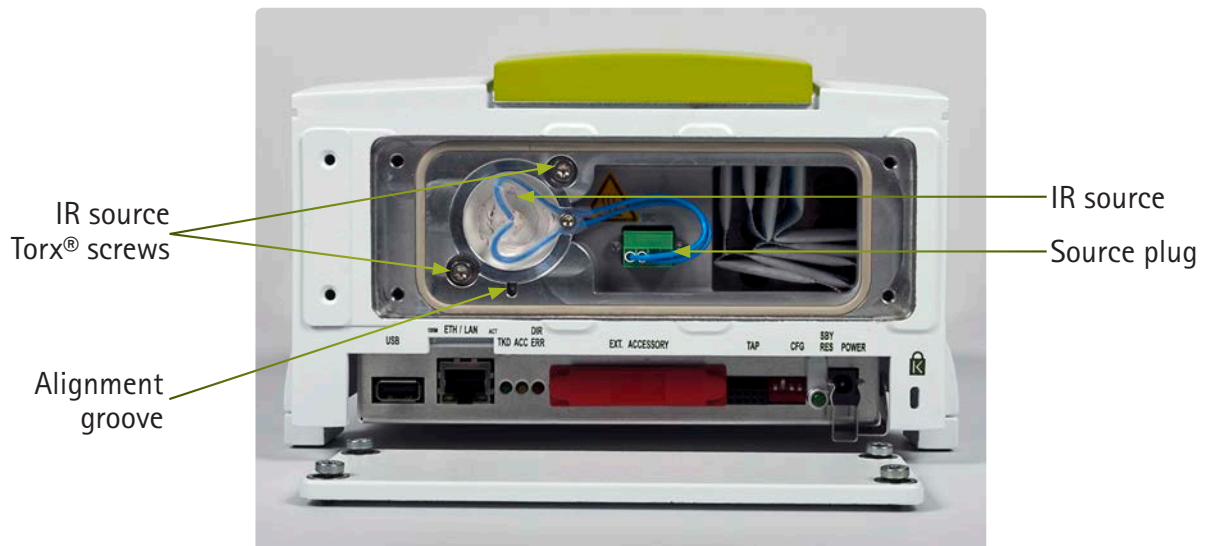

Figure 33. Removing the IR source
4. Loosen the two mounting screws on the IR source (Figure 33) with the Torx® screw driver.
5. Disconnect the green source plug (Figure 33).